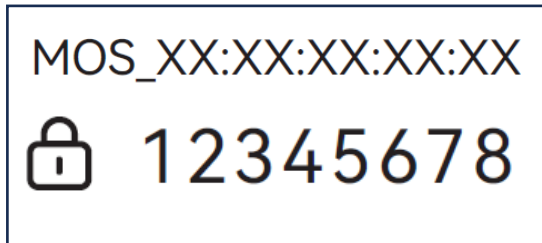

Fig. 3.5
- **Select Network:** Choose the network named "MOS\_XXXXXXX". See Fig. 3.5.
- **Enter Password:** When prompted, enter the default password: **12345678**. See Fig. 3.5.